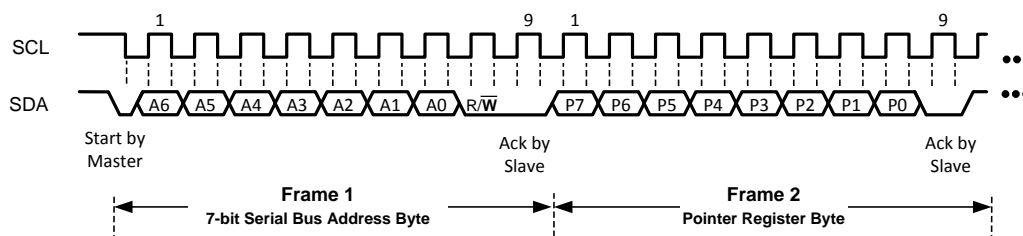

Figure 12. Trigger Humidity/Temperature Measurement
2. Trigger the measurements by executing a pointer write transaction with the address pointer set to 0x00. Refer to Figure 12.
2. Trigger the measurement by executing a pointer write transaction. Refer to Figure 12.